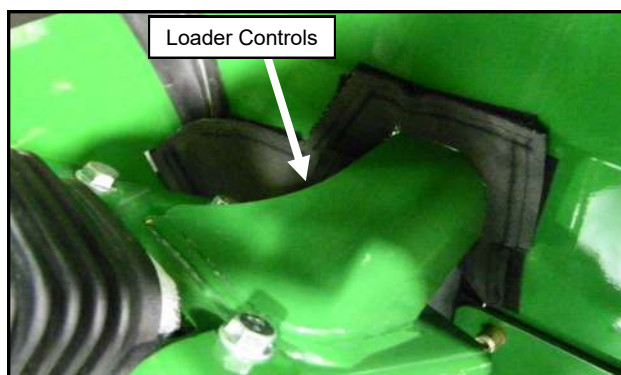

Fig. 19.6 (Front Filler to Cowl)
- 19.6** Push the cowl back into place and re-install the thumb screws. Place the filler against the inside of the cowl, with the slit in the top of the filler around the loader control. Adhere the Velcro to the inside of the cowl. See Figure 19.6